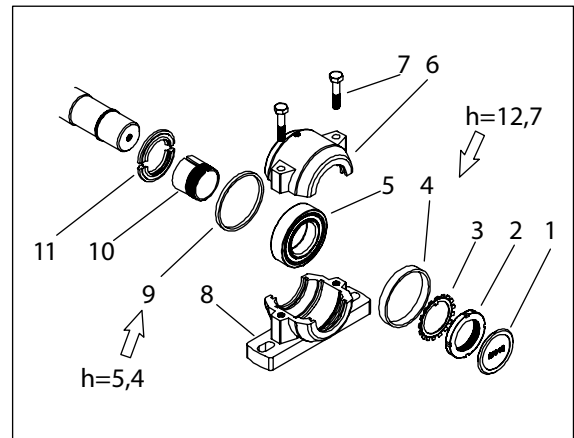

Fig. 7a. Bearing, feeder side
2. Remove the fastening bolts M10 (7) and the upper bearing housings (6).
5. Bend the claw of the securing ring (3) out from the notch on the axle nut and open the axle nut.
6. Remove the axle nut, securing ring, spacer ring (4), bearing (5), spacer ring (9), and tightening cone (10).
7. Install the tightening cone, spacer ring (9), and bearing on the disk shaft. Note the thickness of the spacer ring (9) - see Fig. 7a.
11. Bend one claw of the securing ring (3) into a notch on the axle nut.
12. Install the other half of the dust cover and end plate on the bearing housing. Install the spacer ring (4) on the shaft.